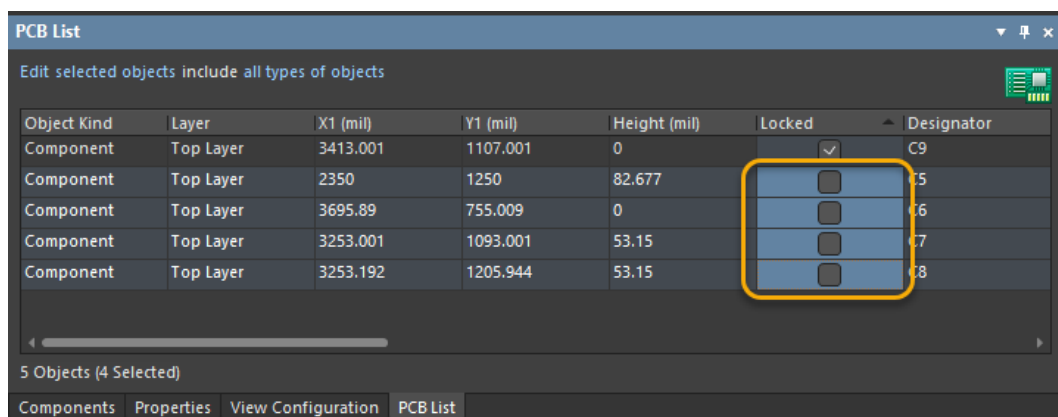

Figure 16. Select Cells
48. Select the locked cells for the remaining four components by clicking on the first unchecked cell, hold the **Shift** key, then click on the last cell as shown in Figure 16 below.